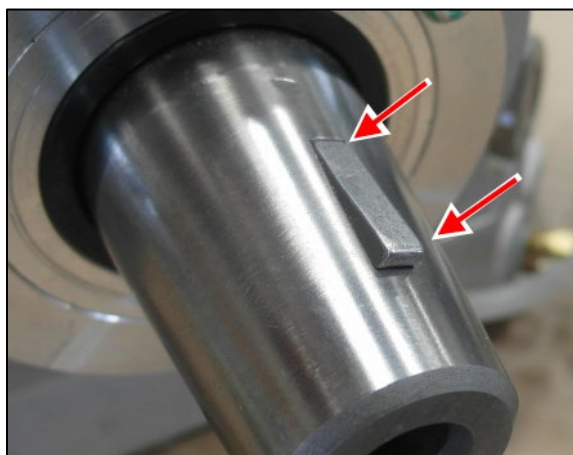

FIGURE 19
37. To avoid damaging the rotor bore, make sure that the woodruff key supplied with the clutch is positioned as shown in Figure 19, otherwise, it could move when the rotor is inserted on the shaft end.